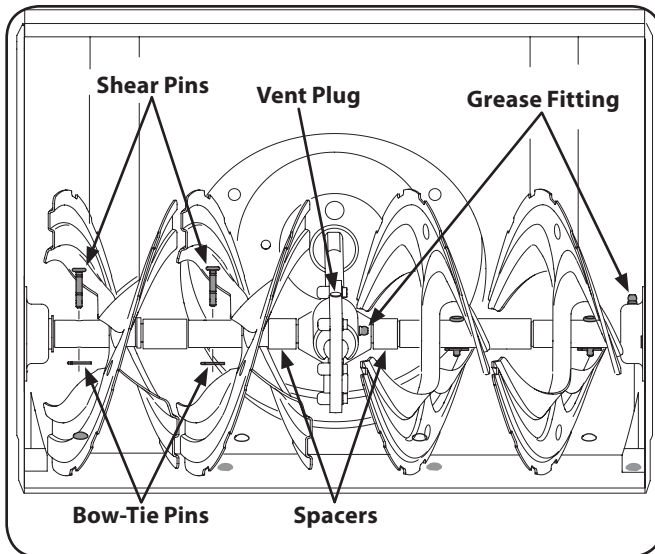

Figure 6-3
The auger gear case is equipped with a grease fitting. Lubricate with grease once a season (order part number 737-0168). See Figure 6-3.
NOTE: To relieve pressure, remove the vent plug before lubricating the gear case. See Figure 6-3. Failure to do so could result in damage to the gear case seals.
At least once a season, remove the shear pins on auger shaft. Spray lubricant inside shaft, around the spacers. Also lubricate the flange bearings found at either end of the shaft. See Figure 6-3.
- The augers are secured to the spiral shaft with shear pins and cotter pins. If the auger should strike a foreign object or ice jam, the snowthrower is designed so that the pins may shear. See Figure 6-3.